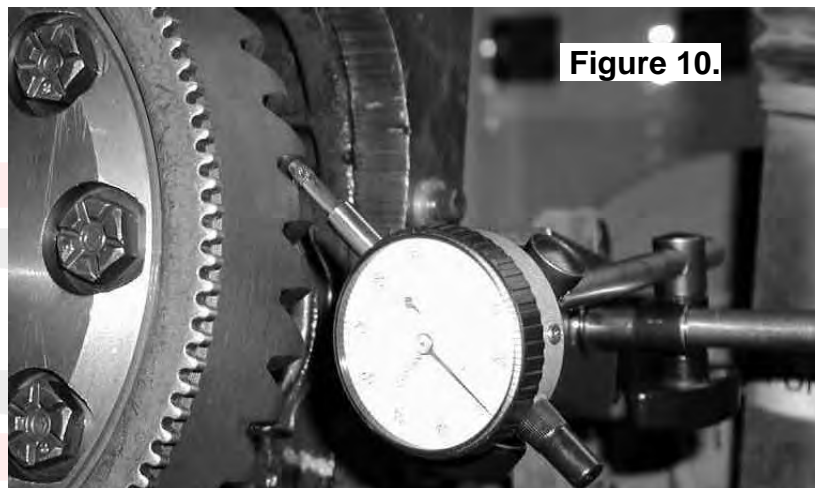

Figure 10.
- Set a depth indicator on one of the ring gear teeth as in Fig. 10.